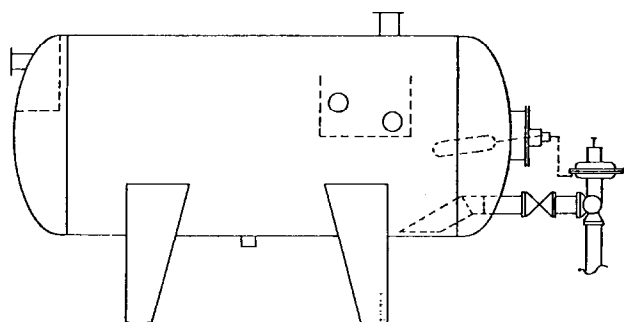

FIGURE 7
D. Three-phased with weir box. Oil is controlled by float operated level control with motor valve. Use as any three-phase FWKO (see Figures 7 and 8).